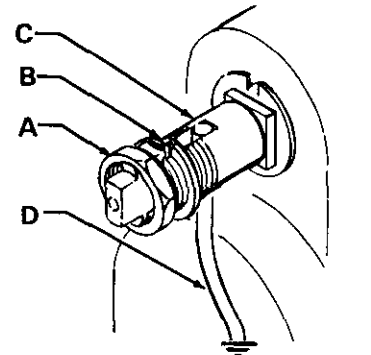

Fig 1
1. *Pump*: use ground wire and clamp as shown in Fig 1.
To ground the pump, loosen the grounding lug locknut (A) and washer (B). Insert one end of a 12 ga (1.5 mm2) minimum ground wire (D) into the slot in lug (C) and tighten locknut securely. See Fig 1. Connect the other end of the wire to a true earth ground. Refer to page 13 to order a ground wire and clamp.